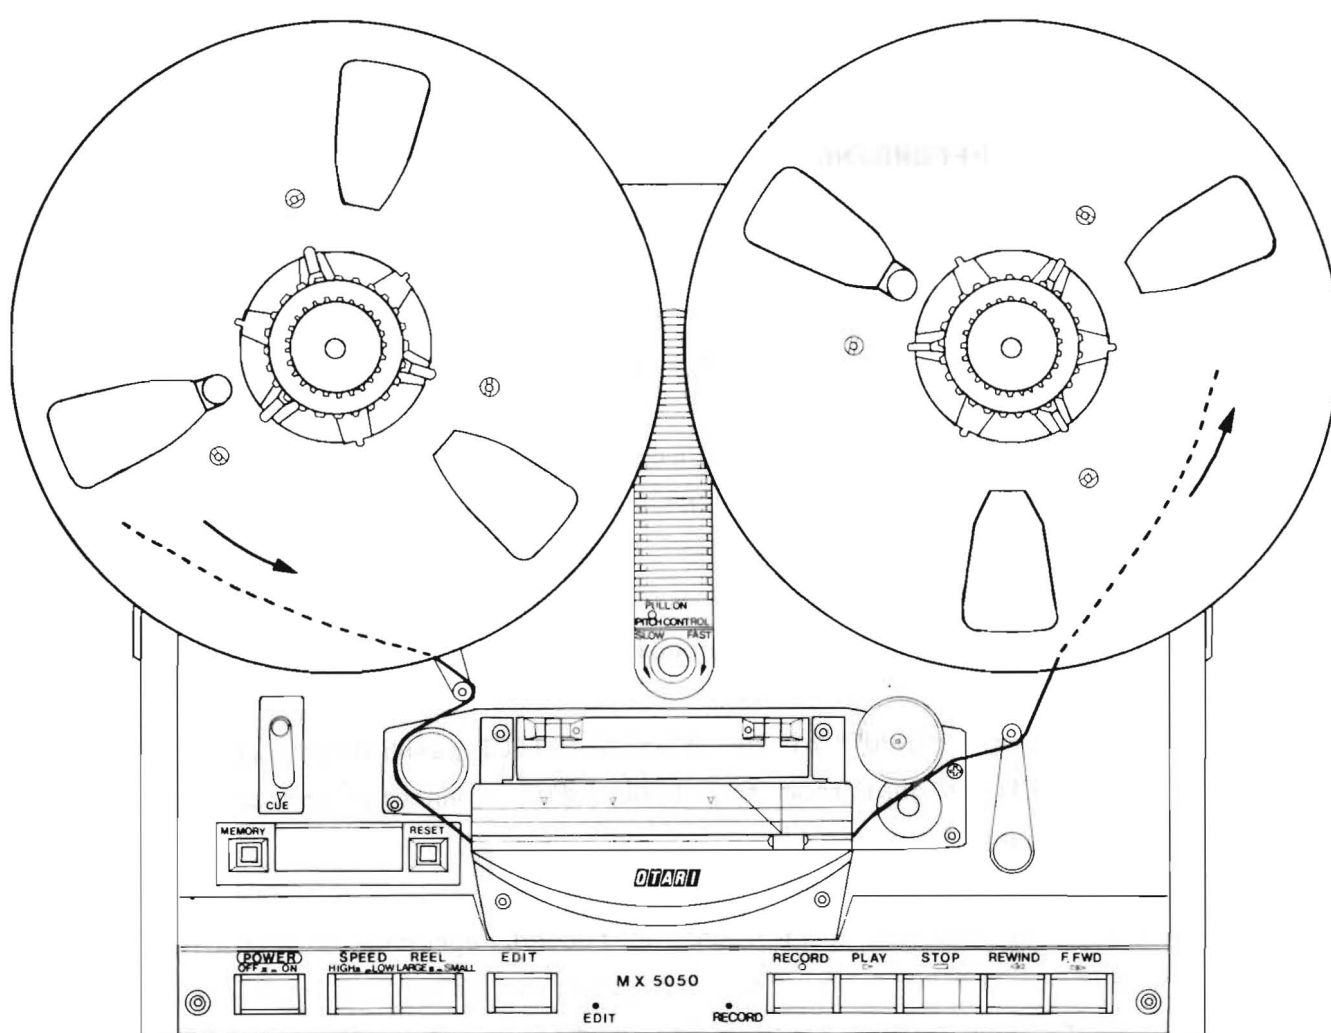

Figure 3-2 Tape Threading
- (4) Thread the tape as shown in Figure 3-2 and place the end of the tape in the slot of the empty reel, and rotate the reel several times with holding the tape end and removing slack of the tape.
- (5) Set the HIGH/LOW SPEED switch to the desired tape speed.
- (6) Set the LARGE/SMALL REEL switch to correspond to the size of the reel hub diameter being used.
- (7) If desired, connect a headset or monitor speaker/amplifier to the PHONES jack.